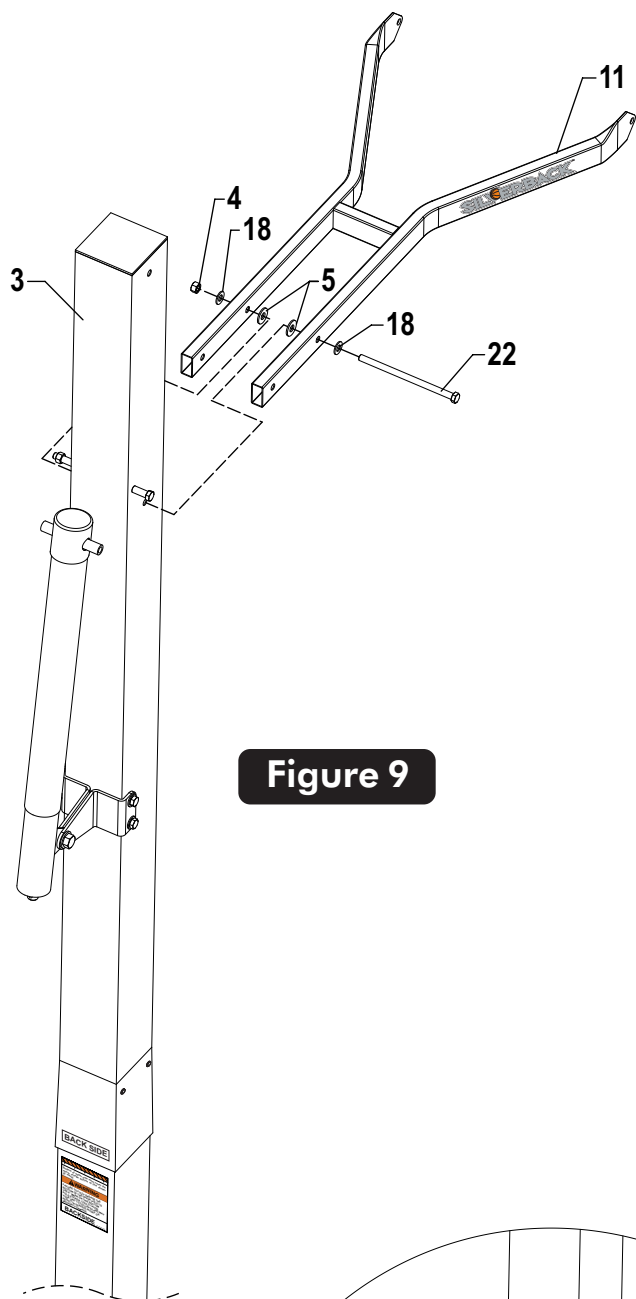

Figure 9
14. Attach lower arms (#11) to Top Pole (#3), as shown in **Figure 9**, using a hex bolt (#22), two flat washers (#18), two plastic washers (#5) and lock nut (#4).